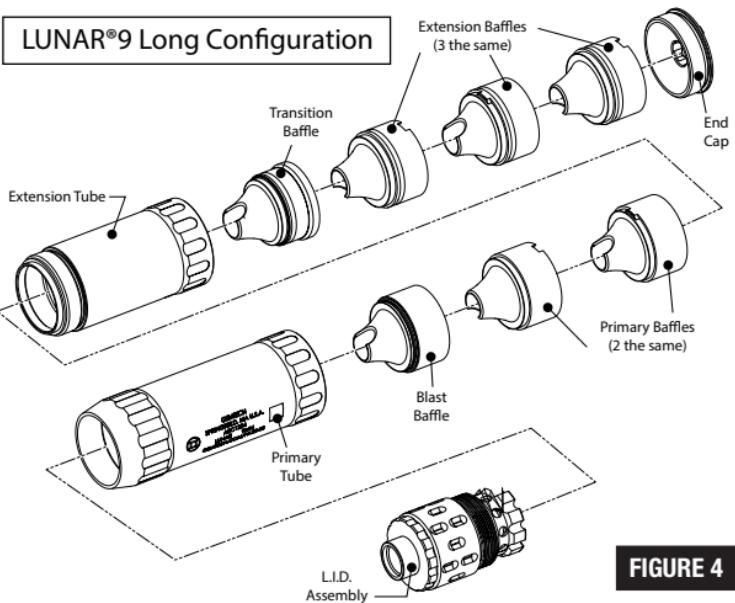

FIGURE 4
- The LUNAR®9 can be configured “long” or “short” using the diagrams shown (FIGURES 4 and 5 on the following page) as a guide to the proper configuration for each.